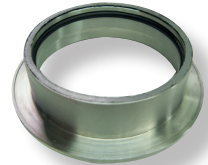

Figure 14
- 6.6 *For sizes  $\leq 2.750$  inch (70 mm)* install the vibration dampener [183.1] onto the inner gland surface where the stationary face [14] will be installed. See Figure 14.